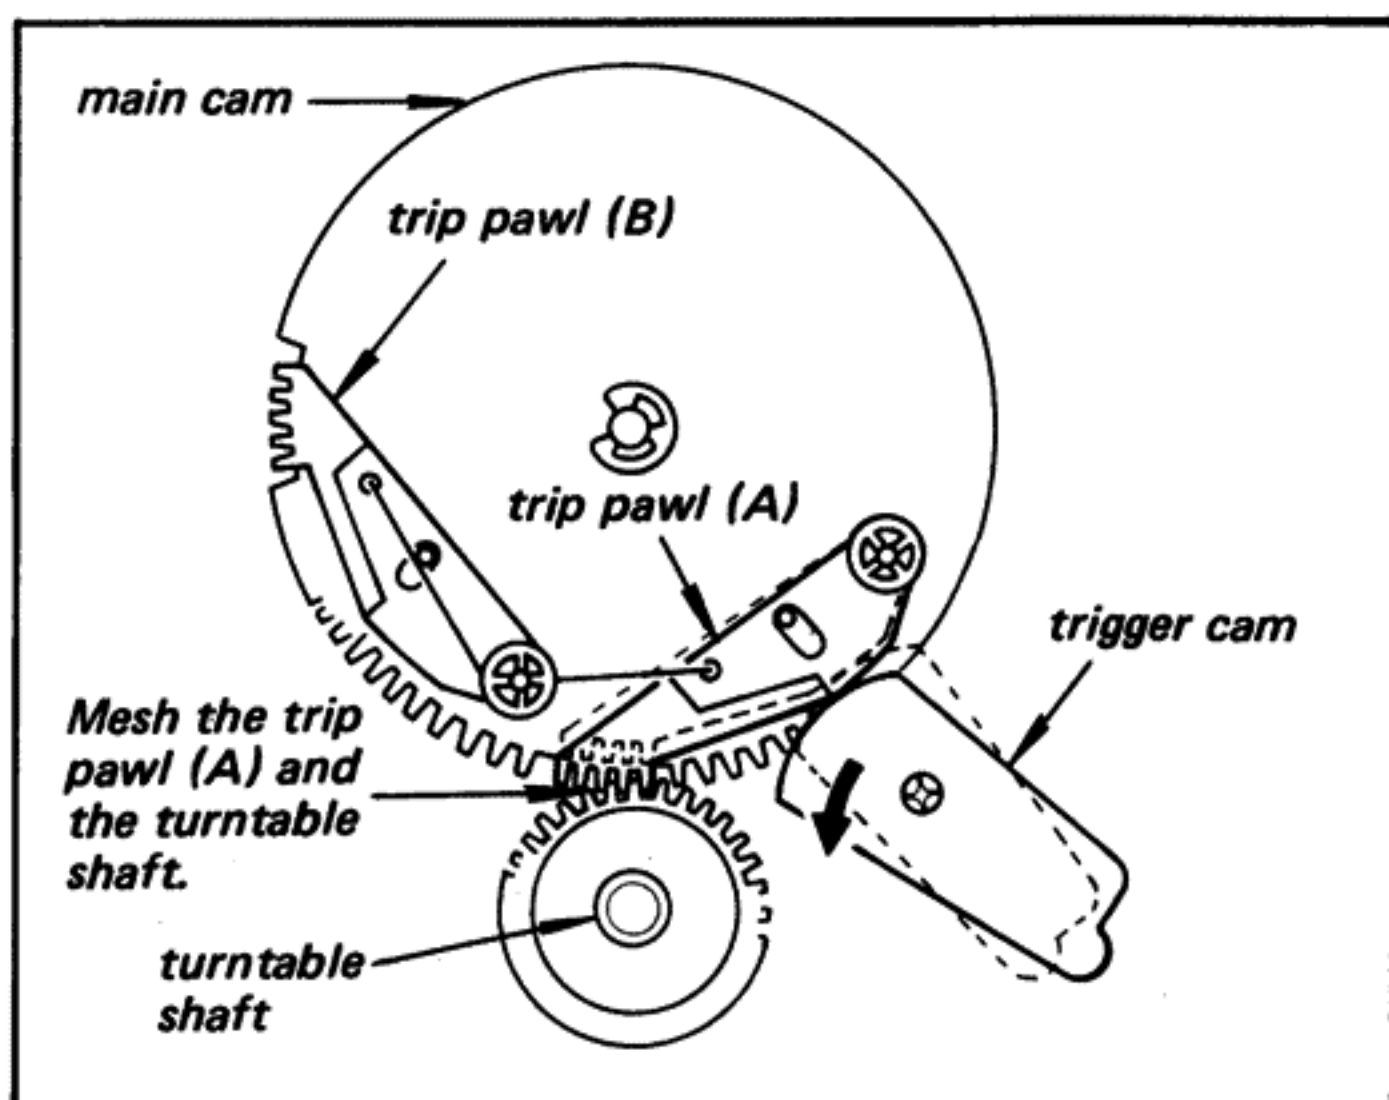

Fig. 3-15. Microswitch adjustment (2)
2. Mesh the trip pawl (A) and the turntable shaft by moving the trigger cam in the arrow direction shown in Fig. 3-15.